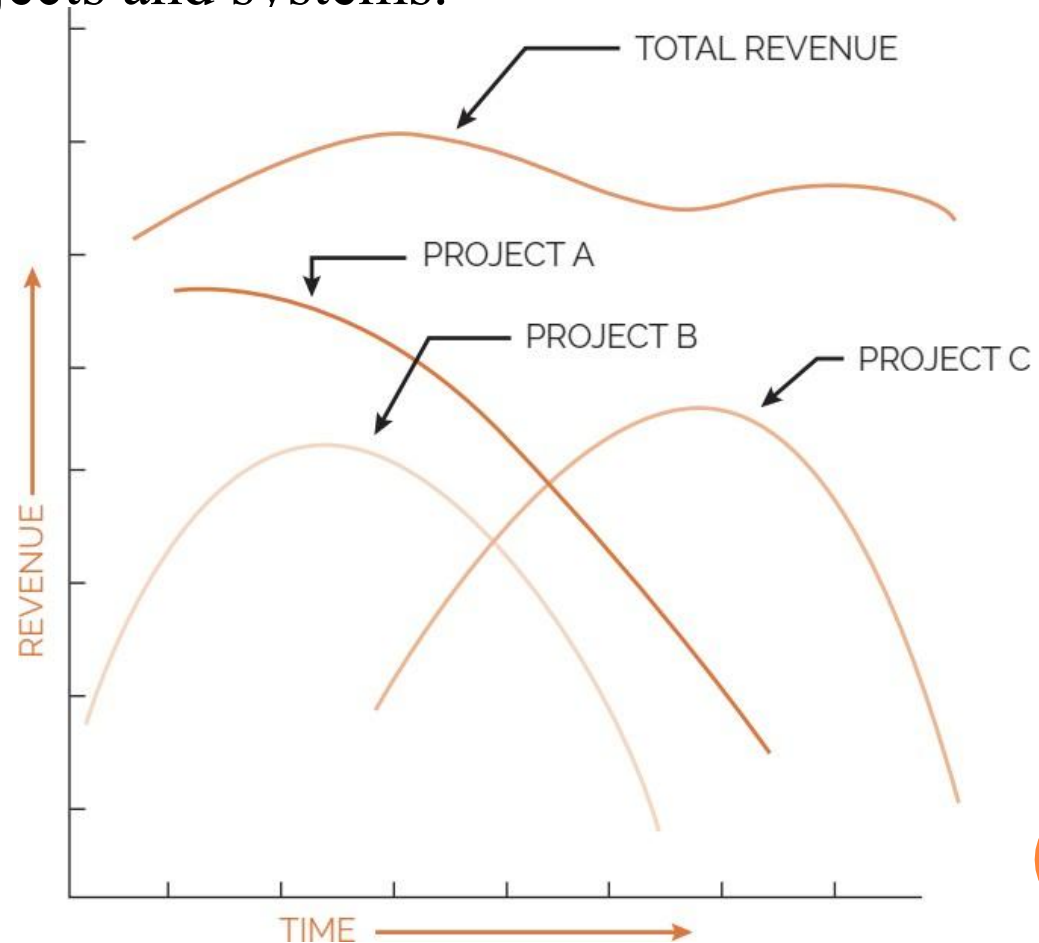

Fig 5.4: A Stream of Projects
- e. **Closure Phase:** The final phase is closure and includes the reallocation of resources. The question to be answered is, "Where the resources should be reassigned?" Consider a company that sells products on the open consumer market. As one product begins, the deterioration and death phases of its life cycle, then new products or projects must be established. Such a company would, therefore, require a continuous stream of projects as a necessity for survival, as shown in Figure 5.4 next slide. As projects A and B begin their decline, new efforts (project C) must be developed for resource reallocation.